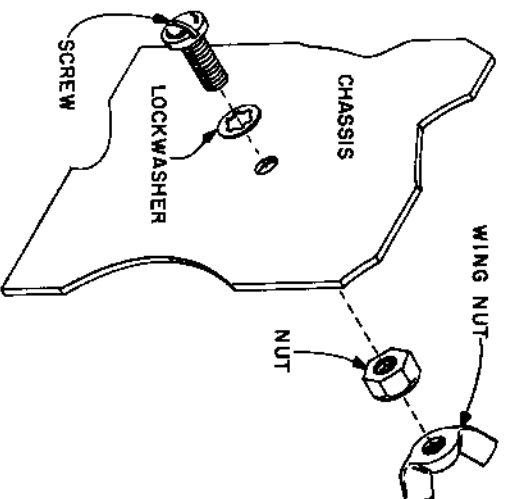

FIGURE 5. GROUND POST ASSEMBLY
- 12 Ground post, a 10-32 screw, lockwasher, nut and wing nut. Assemble as shown in Figure 5.